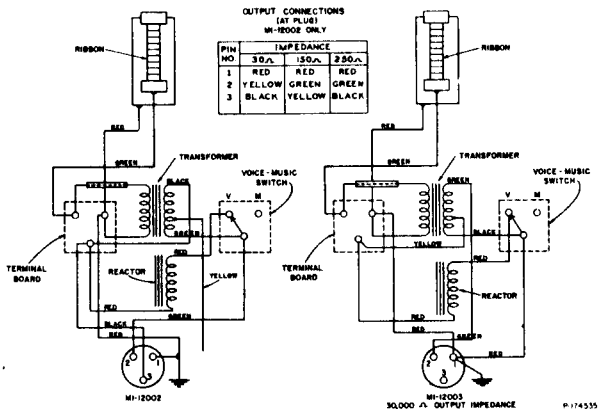

Figure 3—Schematic Diagram
- b. Unsolder the leads to the plug insert and resolder them to obtain the desired output impedance, as shown in figure 3. Tape the unused lead to prevent short circuits.